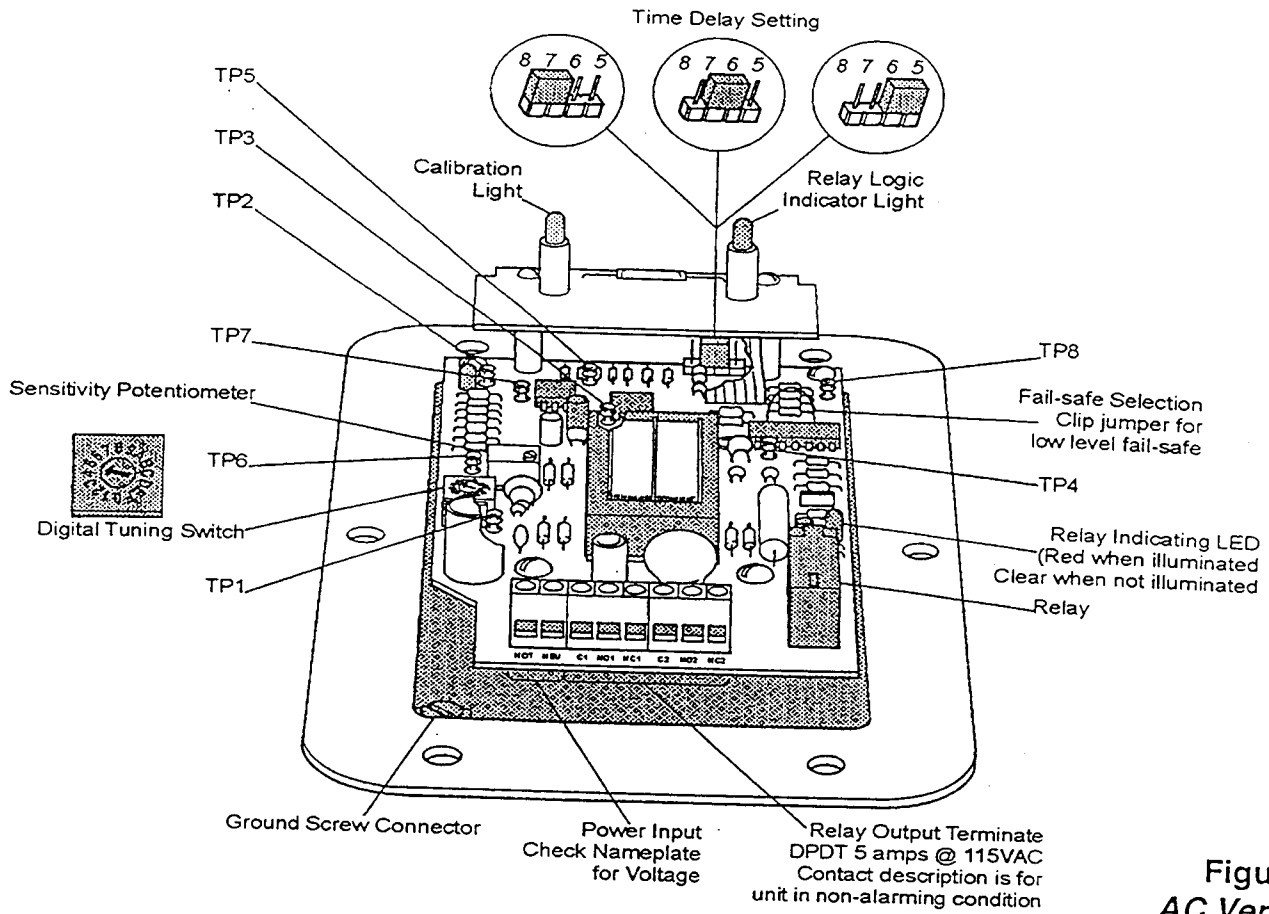

Figure 4
**NOTE:** For Low Level Fail-safe operating condition, clip the bare wire "fail-safe" selection jumper (See **Figure 4** or **5** for location). The Green "Detection LED" is always off when material is present, and on when no material is present, regardless of fail-safe setting. The relay contact terminals are labeled in the powered, unalarmed state. This status may be opposite that of other brands of level controls. Contacts as marked on the terminals are not the relays nomenclature, but are marked so contacts are in "normal" positions when unit is powered and unalarmed.
The RF-8200 units are shipped from the factory in the minimum time delay position. See **Figure 4** or **5** for location and position setting. When used in liquid or agitated material where material movement could cause false or premature level indication, an increased time delay selection may be desirable.
1. Turn the "Sensitivity Potentiometer" 32 full turns clockwise (cw). See Figure 4 or 5.
2. Set the arrow of the Digital Tuning Switch (SW1) to "0" (zero). See Figure 4 or 5.
The "Function Test" option appears on units with a model code of 2 in the fourth digit. (Example: RF82C0G1A. These models can also be identified by a second circuit board. (See Figure 4 or 5)
2. Locate TEST POINTS TP6 and TP7 on circuit board (see *Figure 4 or 5* in this manual).